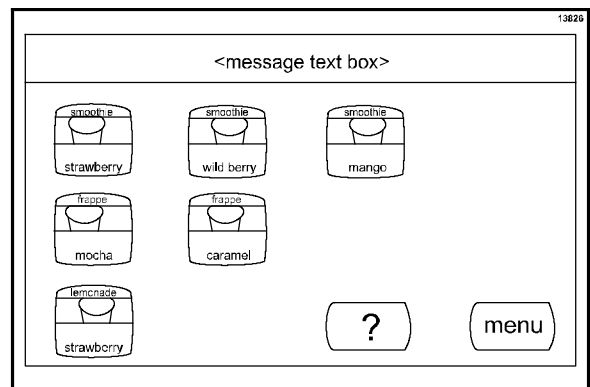

Figure 163
- Press the MENU key from the Beverage Selection screen to display the Main Menu screen. (See Figure 163.)